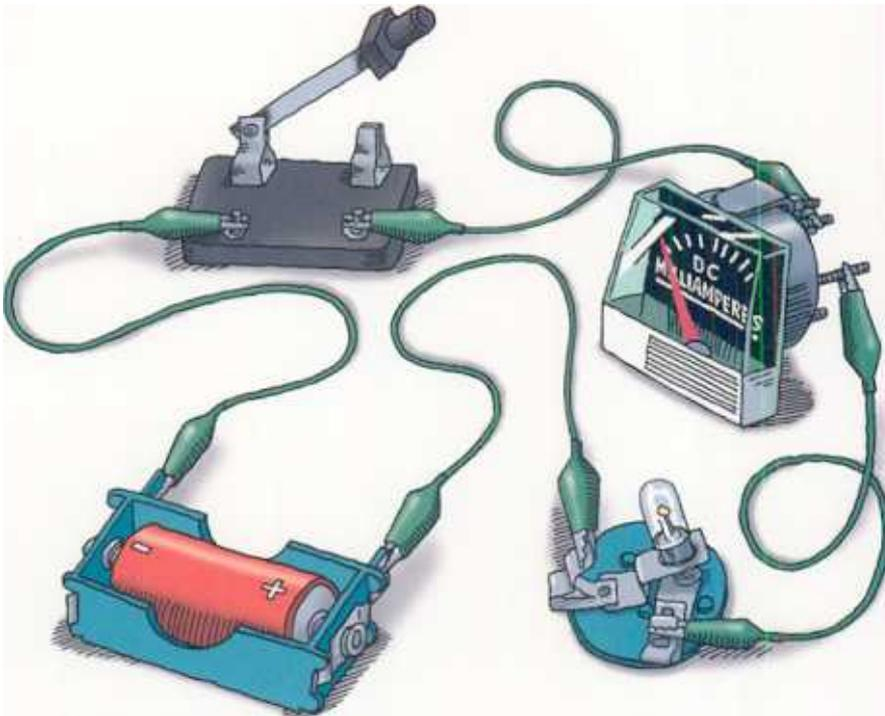

Figure 8.1 Connect a battery, a lightbulb, an ammeter, and a switch in series to measure the current through the lightbulb.
2. Set up the circuit shown in Figure 8.1
3. Draw the schematic for the circuit in Figure 8.1 in your science notebook.